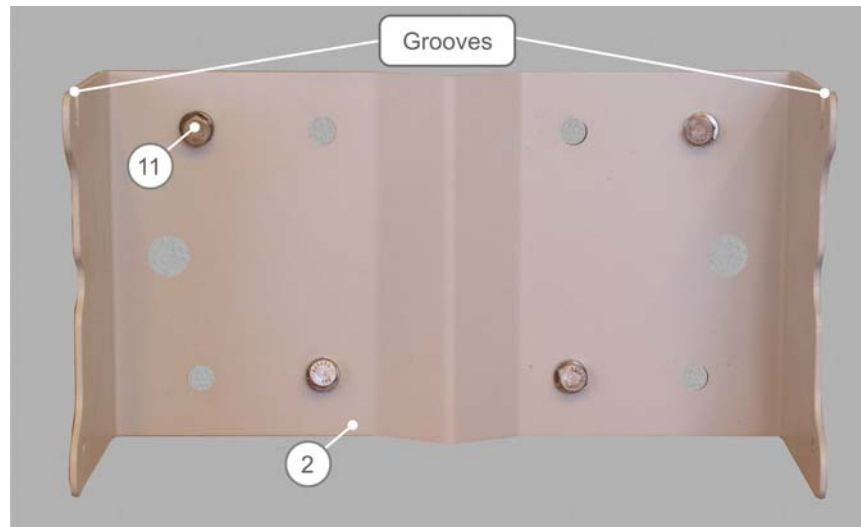

Figure 8: Wall Mounting – Attaching Bracket to Wall
2. Attach the main bracket to the wall using four Wall screws (not supplied by Arcadian Networks). Make sure the two side grooves are facing up, as shown in Figure 8.